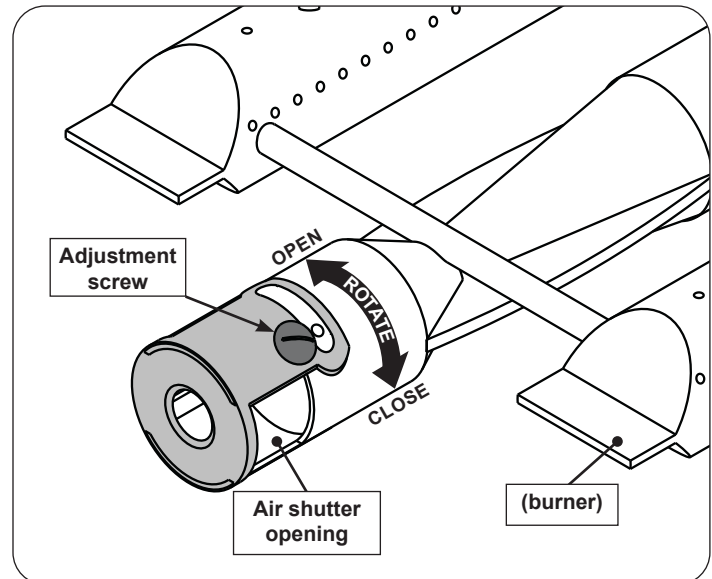

Fig. 46-2 Main burner air shutter adjustment detail
1. To adjust the air shutter, loosen the adjustment screw with a flathead screwdriver. Then rotate the shutter to open or close it. See Fig. 46-2 for details.